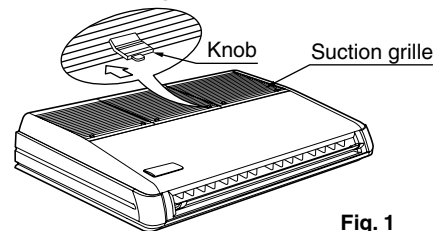

Fig. 1
- (2) Drill holes for suspension bolts, refrigerant, drain pipe, and wire.
- (3) Remove the parts from the indoor unit.
- Slide the locking knobs (x2) on the suction grille inward (direction of arrows) and lift upwards. (Refer to Fig. 1)